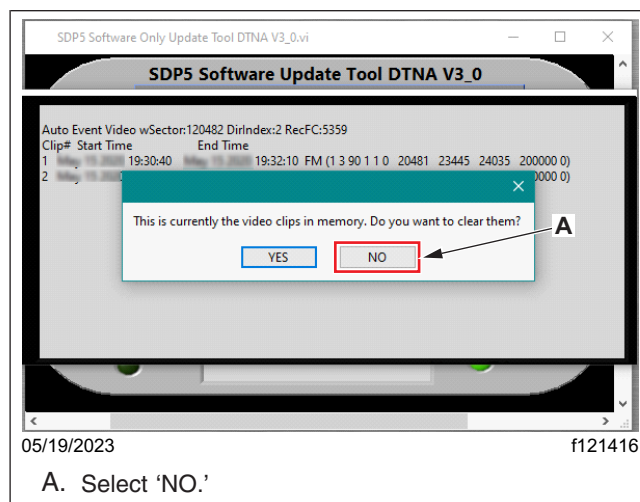

Fig. 29, Clearing the Memory
15. Some vehicles may have previously-recorded clips in the memory, and a pop-up saying 'This is currently the video clips in memory. Do you want to clear them?' appears. Select 'NO.' See Fig. 29.